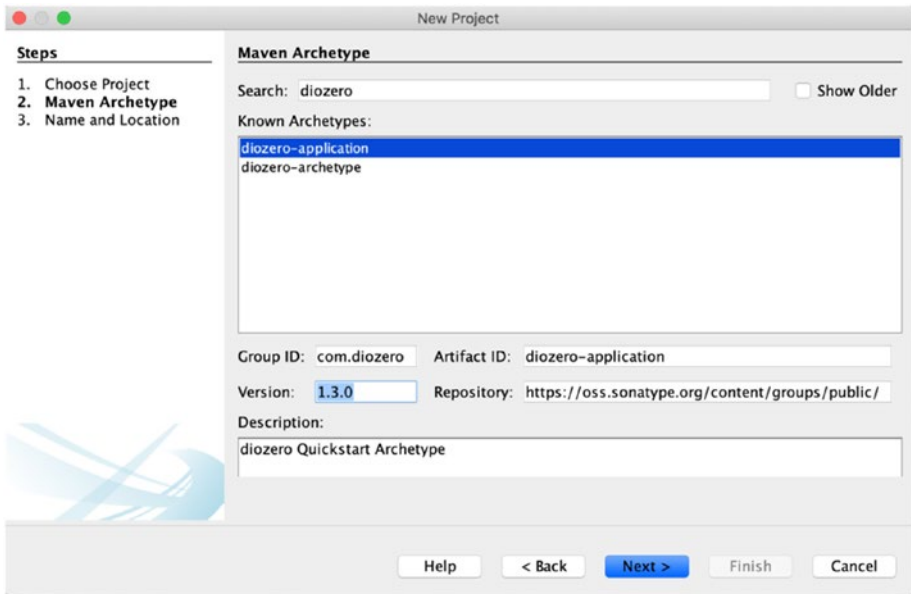

**Figure A3-2.** *Maven Archetype dialog*
Click **Next** to proceed to the *Maven Archetype* dialog shown in Figure A3-2. You must first enter “diozero” in the *Search* field. Then, in the *Known Archetypes* field, select **diozero-application**. The dialog automatically fills the rest of the fields, including the latest version of diozero.1
**Tip** While testing the methodology in this appendix, diozero moved from version 1.2.2 to version 1.3.0. For unknown reasons, the NetBeans dialog in Figure A3-2 continued to suggest version 1.2.2 after 1.3.0 became available. This may or may not happen to you. I worked around the possible bug simply by typing 1.3.0 in the *Version* field. In any case, you should check [www.diozero.com](http://www.diozero.com) for the latest diozero version prior to completing the dialog.